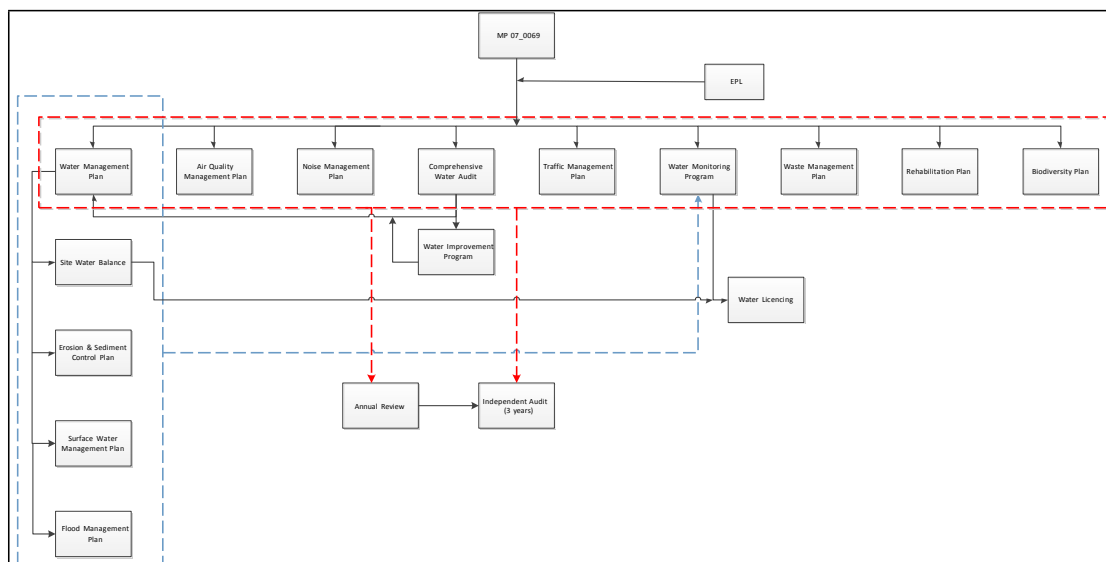

Figure 3: Project EMP strategic framework
Figure 3 shows the overarching strategic framework for the project. The conditions of consent for MP 07_0069 are managed through the set of environmental management plans (EMPs) to ensure the project conforms and meets the expected outcomes of the development consent. The project's Environmental protection Licence plays a key role in prescribing the relevant environmental criteria of emissions and discharges which the EMPs must achieve. The Annual Review (AR) is the reporting mechanism by which the project's performance is reported publically